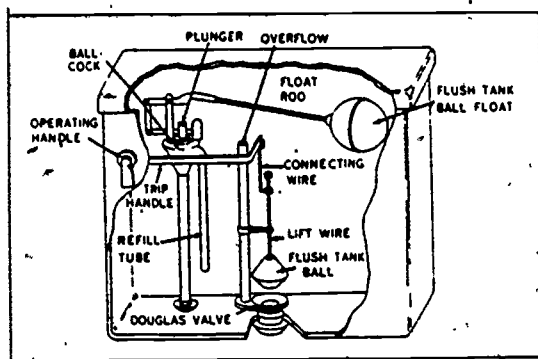

Figure 2-31. Water closet flush tank.
a. Water closet tank. The water closet tank is made of vitreous china with a removable cover and internal working parts, as shown in figure 2-31. The primary key for the operation of the closet tank is the float valve, called a ball cock, which causes the closet tank to refill automatically and which shuts off the water when the closet tank is full. The mechanism that causes the ball cock to shut off has a flush tank ball float